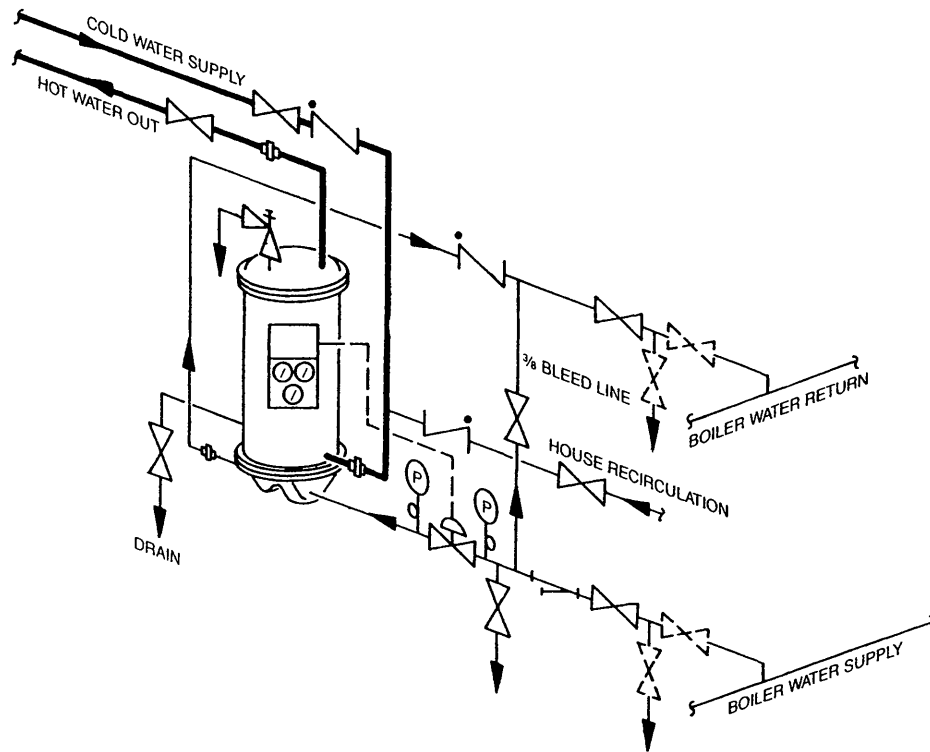

Figure HE-106-7 -- Piping Connections for a Single Water to Water Heater with a 2-Way Control Valve
- Single Heater with a 2-Way Control Valve -- Figure HE-106-7
- Where the Heating Fluid temperature is high enough to cause a significant flashing, AERCO recommends the use of "double cock and bleed" valving, as shown dotted in Figures HE-106-7 and HE-106-8, in both the Heating Fluid supply and return lines to permit safe access to the equipment for maintenance
- of time. Add the bleed line as shown in Figure HE-106-7.